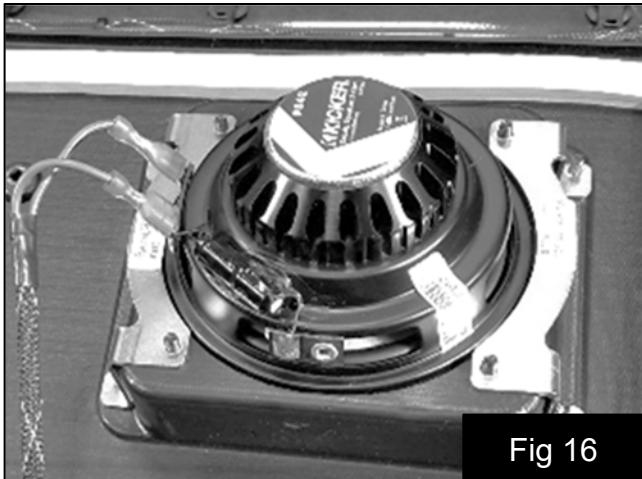

Fig 16
26. Connect the speaker wires to the speakers. Fig 16